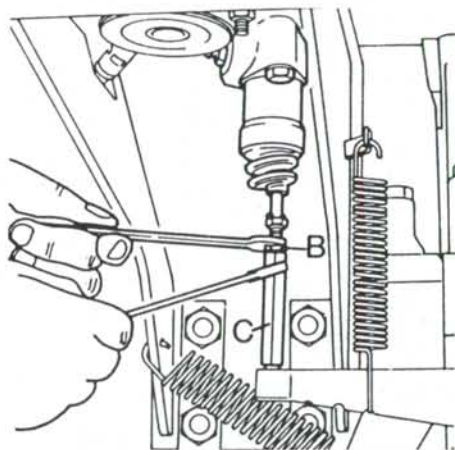

Fig. 159—View showing adjusting sleeve (C) and locknut (B) on 1490 and 1690 models.
213. Transmission clutch linkage should be checked and adjusted after every 60 hours of operation. Move cross-shaft lever away from slave cylinder push rod (Fig. 158) until release bearing is against release lever plate and note amount of lever movement. Clearance (free movement) between cross-shaft lever and end of push rod adjusting sleeve should be 4 mm ($\frac{5}{32}$ inch). If necessary, loosen locknut (B—Fig. 159) and turn adjusting sleeve (C) until correct clearance is obtained.